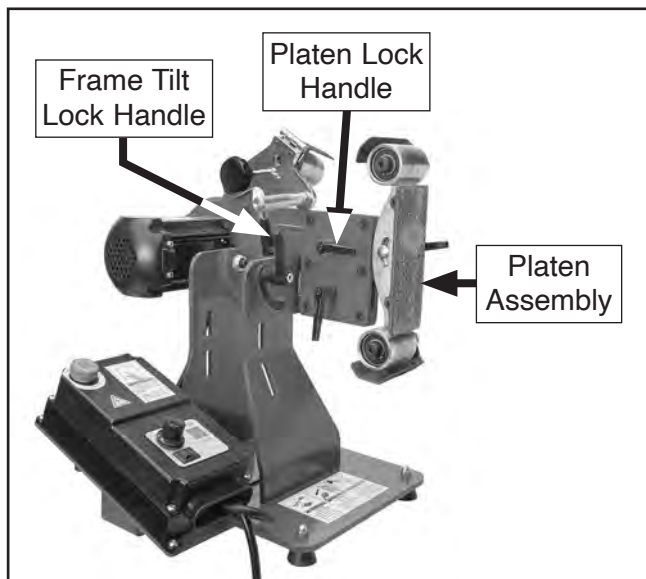

Figure 9. Frame tilted to vertical position.
3. Loosen frame tilt lock handle and tilt machine frame to vertical position, as shown in **Figure 9**, then tighten frame tilt lock handle to secure.
4. Loosen platen lock handle (see **Figure 9**).
5. Remove platen assembly from machine frame (see **Figure 9**).